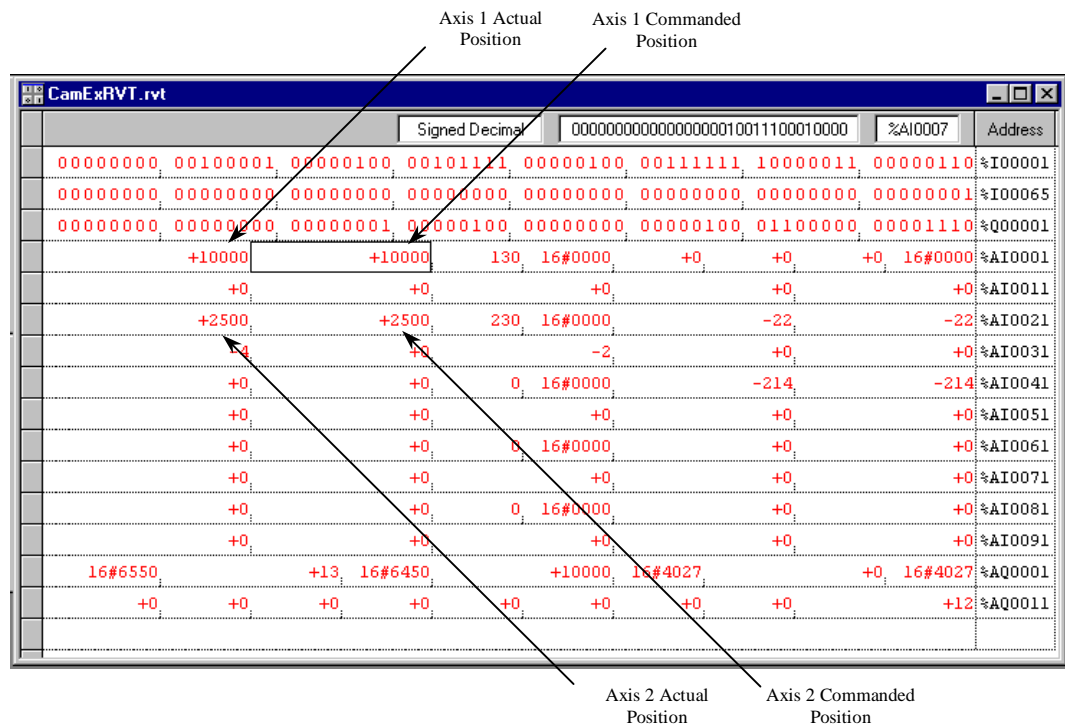

Figure 16-39. RVTEXample Screen First Dwell
7. The motors will execute the statements until they reach the first DWELL, where we can visually verify that it followed the CAM profile correctly. The display should be similar to Figure 16-39. Notice how the commanded position for Axis#2 equals 2500, while the commanded position for the slave corresponds to the CAM table and has the value 10,000.